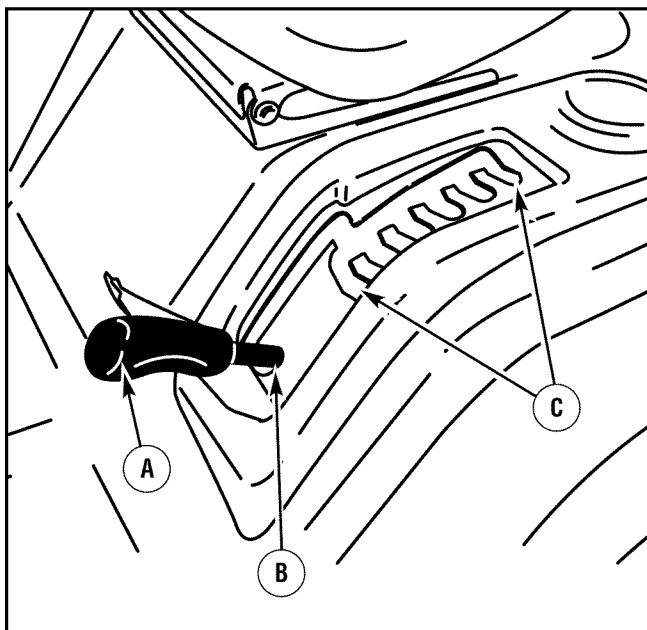

Figure 39: Lever adjustment
- Move the **deck lift lever** to the LEVEL ADJUSTMENT position (Figure 39).